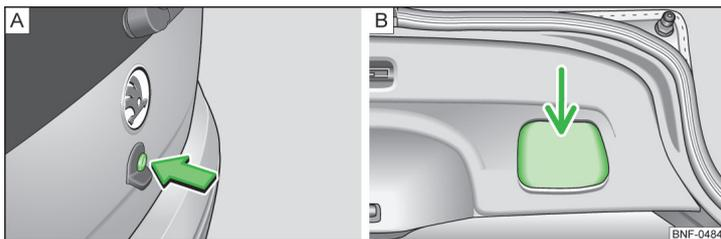

Fig. 30 Luggage compartment lid
➤ Open the luggage compartment lid by pressing the » Fig. 30 - **A** button.
- Reach into the recesses » Fig. 30 - **B** and pull the luggage compartment lid down.